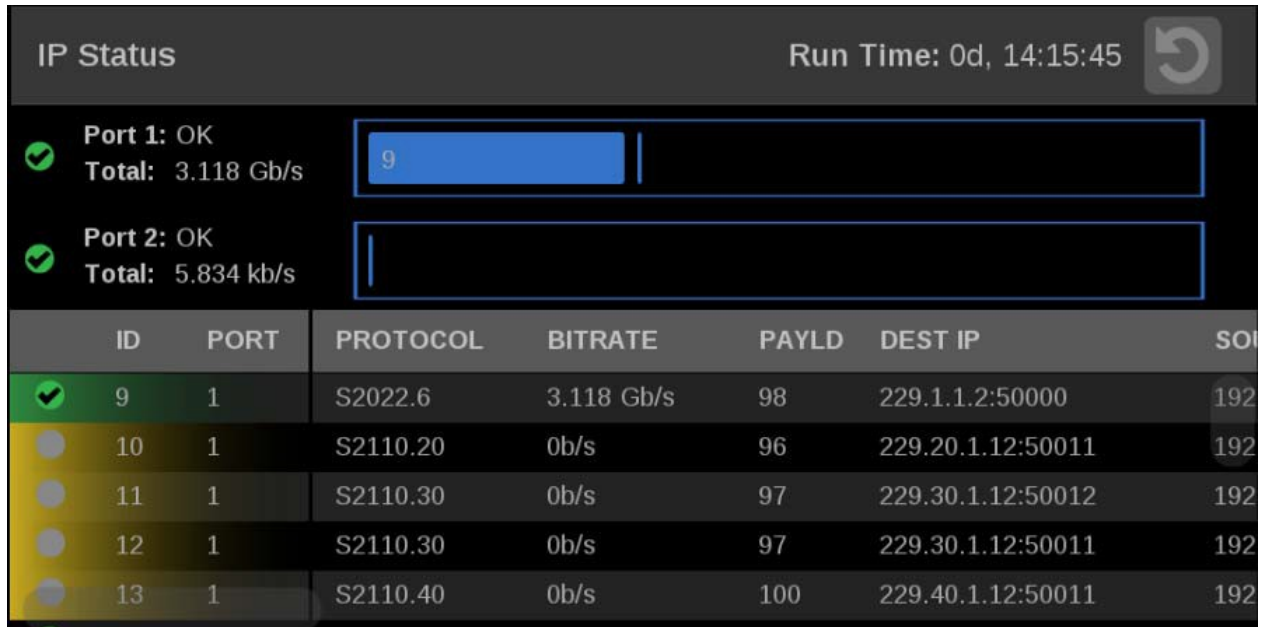

Figure 137: IP Status application display
The IP Status application provides an overview of the monitored IP stream and shows the status of each program in the stream. (See Figure 137.) After the input signals have been subscribed to using the input settings menu, the traffic on the SFP ports can be viewed using the IP Status application. Depending on the network switch deployed, the traffic may not appear in the IP Status application immediately.
- **Yellow gradient:** When an item in the list has a yellow gradient, it indicates the item was previously detected in the stream but is no longer present. The yellow gradient can also indicate messages, which occur only for a few seconds. Use the  icon to reset the display to view only the items currently in the stream. (See Figure 137.)
- **Green gradient:** When an item in the list has a green gradient it indicates the item is a currently monitored stream. Use the  icon to reset the display to view only the items currently in the stream. (See Figure 137.)